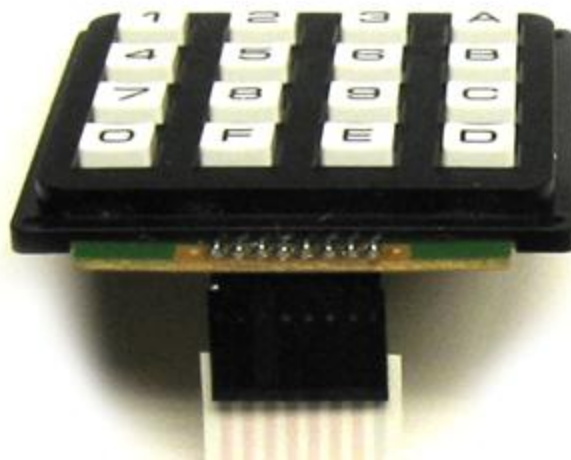

Figure 4. Connecting flat-flex cable to the back of the keypad.
2. Connect the flat-flex cable to the pins on the back of the keypad, as shown in Figure 4.